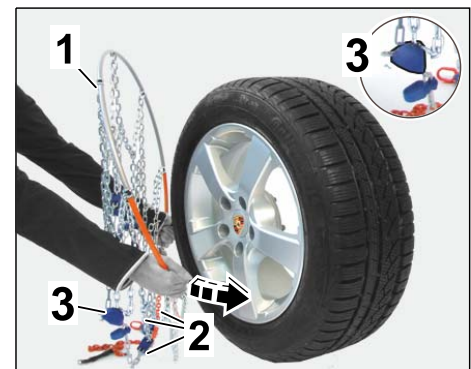

Figure 4
The snow chain that was tested and approved for Porsche does **NOT** have blue plastic corners (⇒ Fig. 4, item 3).